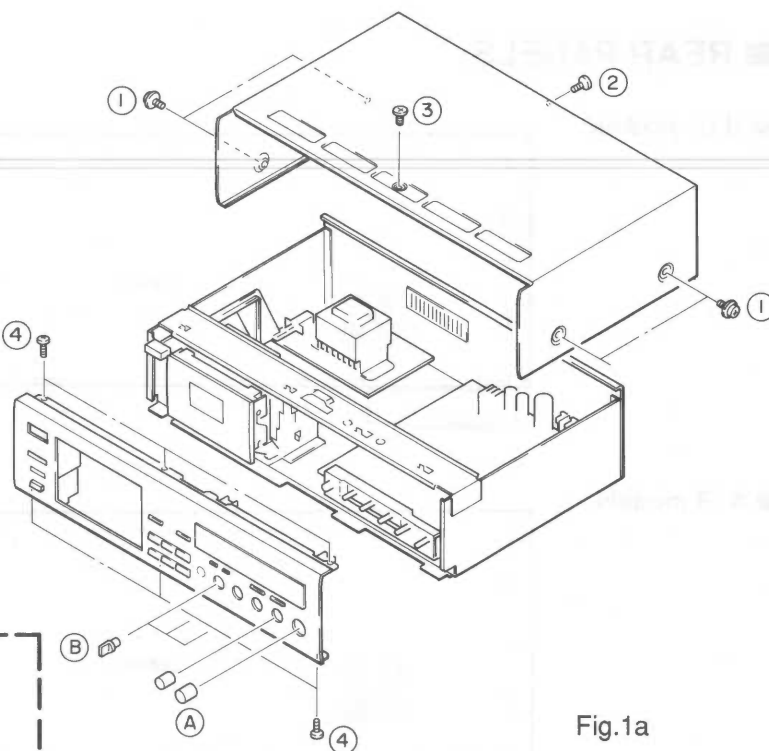

Fig.1a
- a. Remove 6 screws (①, ②, ③) in fig. 1a.
- a. Remove 6 screws (④) in fig. 1a.
b. Remove 5 knobs (A, B) in fig. 1a.